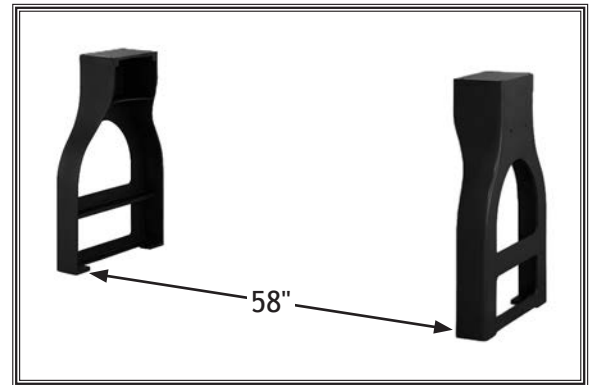

Figure 10. Stand legs aligned and centers of legs positioned 58" apart.
1. Position stand legs upright approximately 58" apart, and get them reasonably aligned (see **Figure 10**).